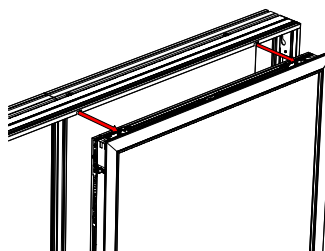

Figure 5: Tilt sash out at top and remove
6. Slide the sash to 90 mm from the closed position. The sash is now free and can be tilted out from the top and lifted off. Place the sash securely (figure 5).